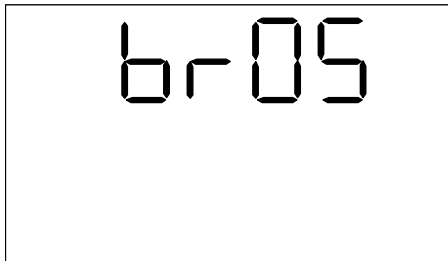

Figure 10. Aiming Dot Intensity Setting
The in-scope red aiming dot has eight intensity settings from *OFF* (00) to *BRIGHT* (07). Refer to the instructions and Figure 10 below to adjust the red aiming dot's intensity.
1. Press the **BRIGHTNESS CONTROL button**. The display should look similar to Figure 10. The current setting is whatever "**br xx**" is displayed. The factory default setting is "br 05" as shown in the figure.